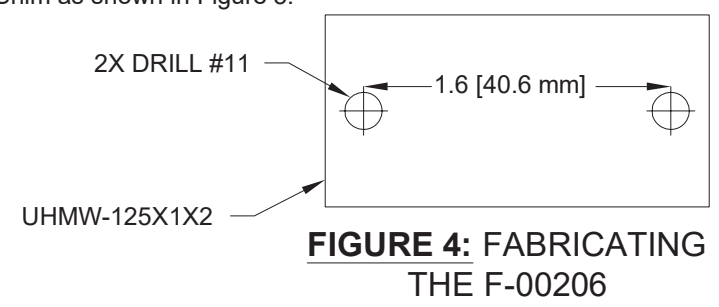

FIGURE 4: FABRICATING THE F-00206
Step 13: Fabricate the F-00206 AV-532 Spacer as shown in Figure 4.